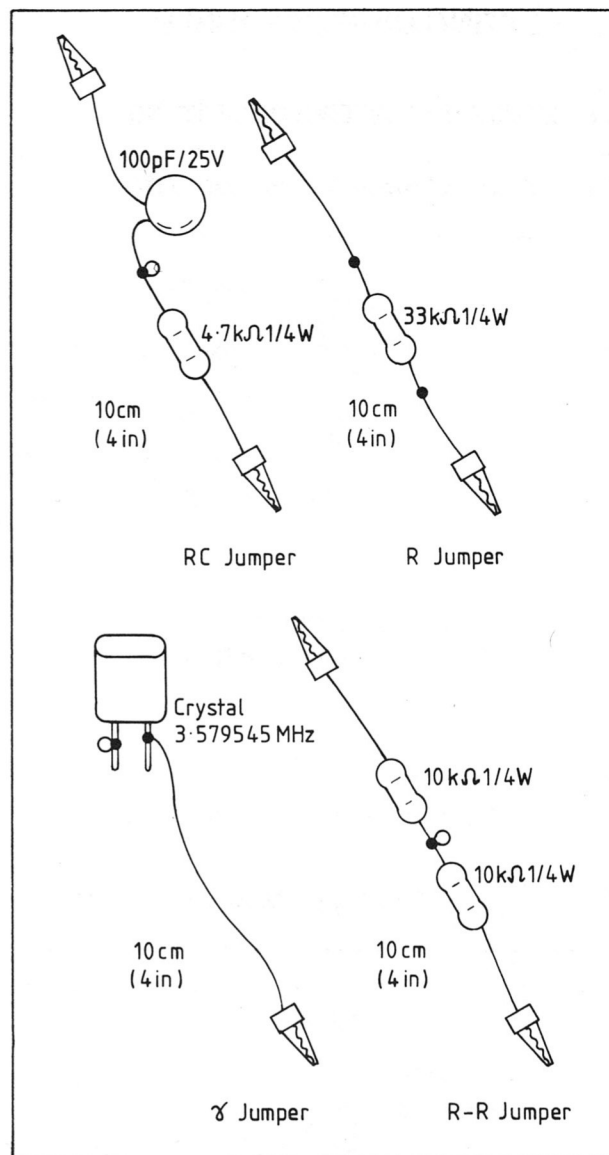

Fig 7.4 Jumpers Required for Alignment
- * Jumper As shown in Figure 7.4, one off each